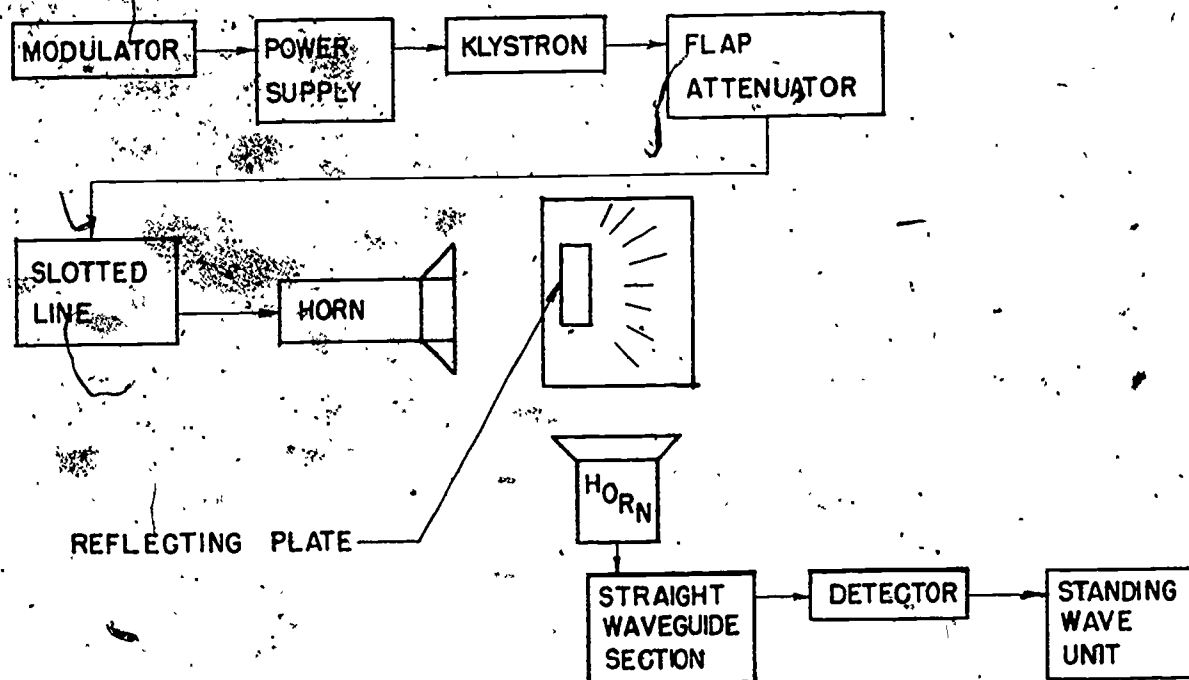

Fig. 2--Reflection Measurement Setup
5. Connect the equipment as shown in Fig. 2.